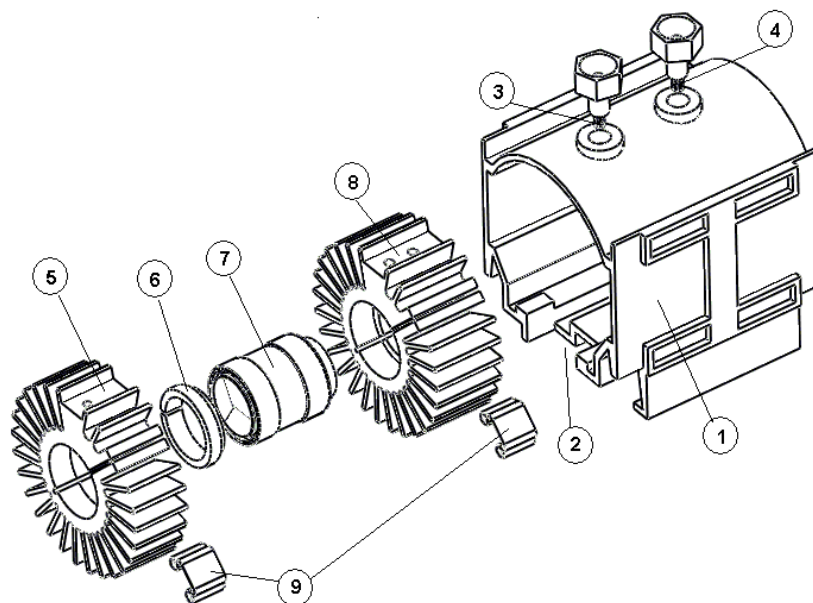

Figure 1. Bulb assembly components.
1. Remove both terminals (see Figure 1) from the blue housing.
5. The mounting ring (see Figure 1) might still be inside the front heat sink. Remove it and set it aside. You will need it if the new bulb does not have one.